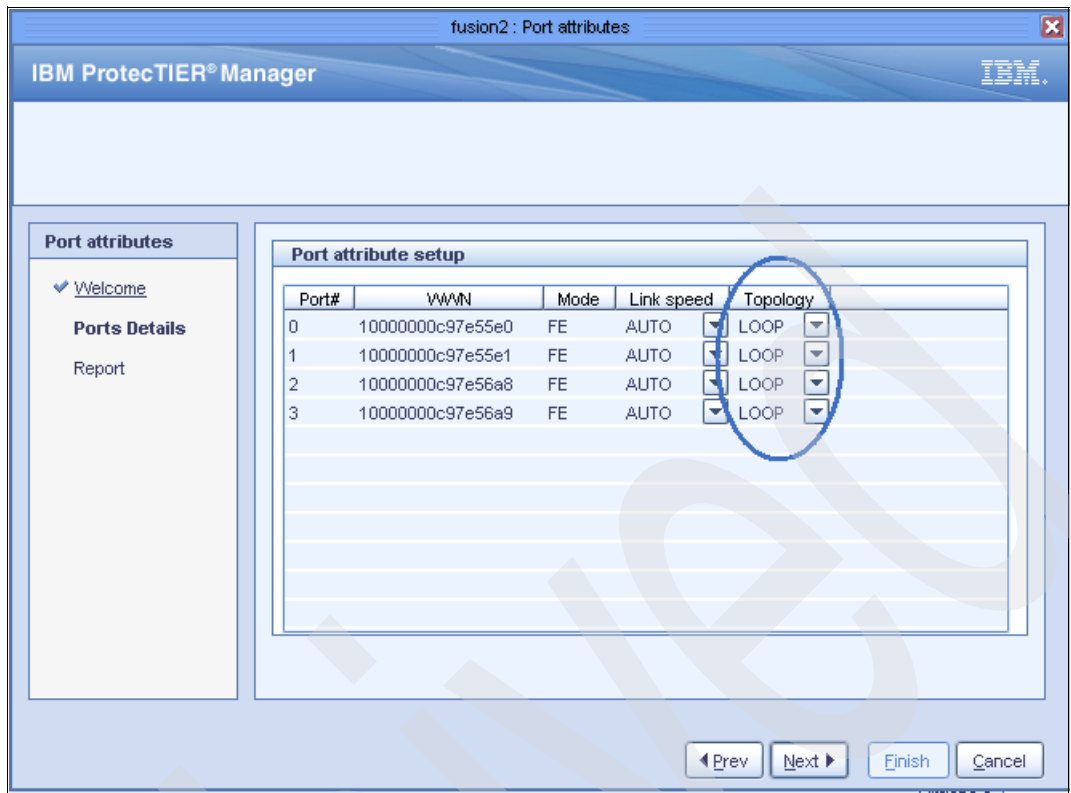

Figure 6-44 PT Manager_Port details
- c. Select **Next** to proceed to the Port Details menu. Verify that the topology from the default setting is LOOP. See Figure 6-44 on page 129.